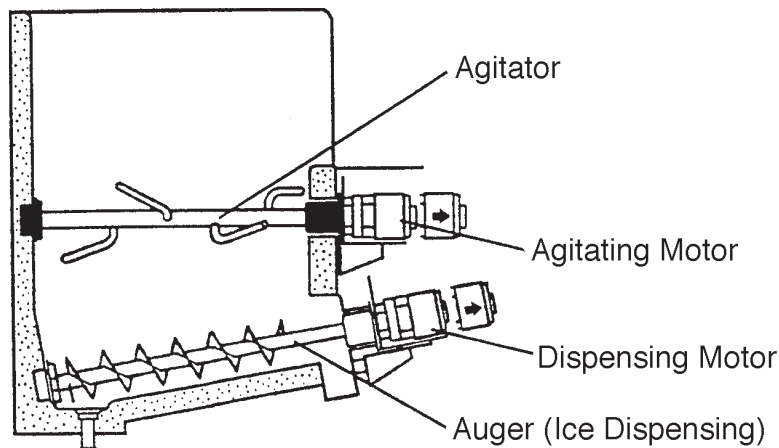

Fig. 7
- 4) Remove the thumbscrews, first from the vertical plane and then from the horizontal plane of the motor brackets. Move the agitating motor and the dispensing motor towards you. Then remove the agitator and the auger (ice dispensing). See Fig. 7.